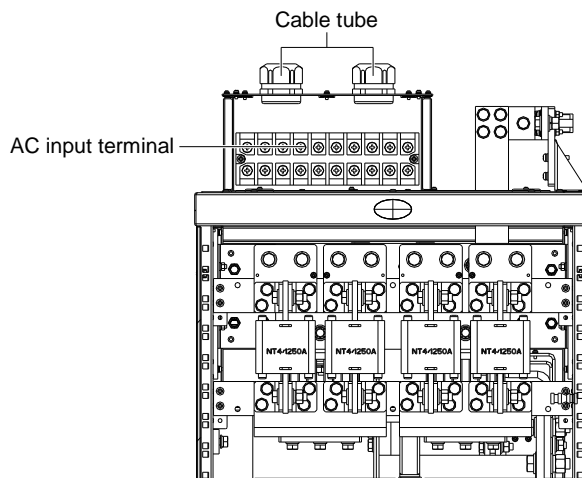

Figure 3-11 AC cable connection
- 2. The AC cables are connected to the AC input terminals through the cable tubes, as shown in Figure 3-11. One five-core cable (3P + N + PE, for Netsure 701 AO3-T1) or four-core cable (3P+ PE, for Netsure 701 AO2-T1) can be fed into each cable tube. The phase of the cable should be in accordance with the phase of the AC input terminals.